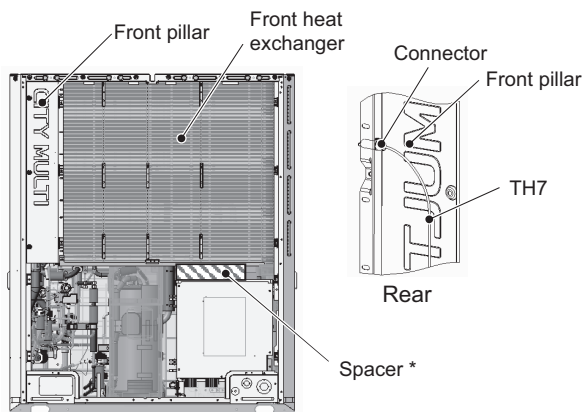

Figure 12
(15) Remove the front pillar by unscrewing the 7 screws. (See Figure 12.)
(16) Disconnect the TH7 sensor holder from the front pillar. (See Figure 12 Rear.)